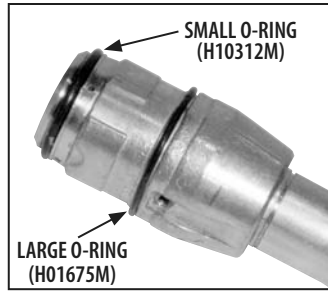

FIGURE 7
- 6) Install new O-rings (supplied) on spout (*Figure 7*) and coat the O-rings with petroleum jelly.